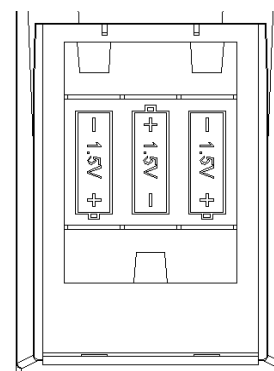

Figure 21 - Back of Remote Control (cover removed)
4. Wait five (5) minutes to clear out any gas. Then smell for gas around heater including near floor. If you smell gas, **STOP!** Follow "B" in the safety information above. If you don't smell gas, go to the next step.
5. Plug into a properly grounded three-prong receptacle, and install three AAA batteries in remote. A high pitch sound will occur and colored light on front of heater will be lit.(Figure 21)